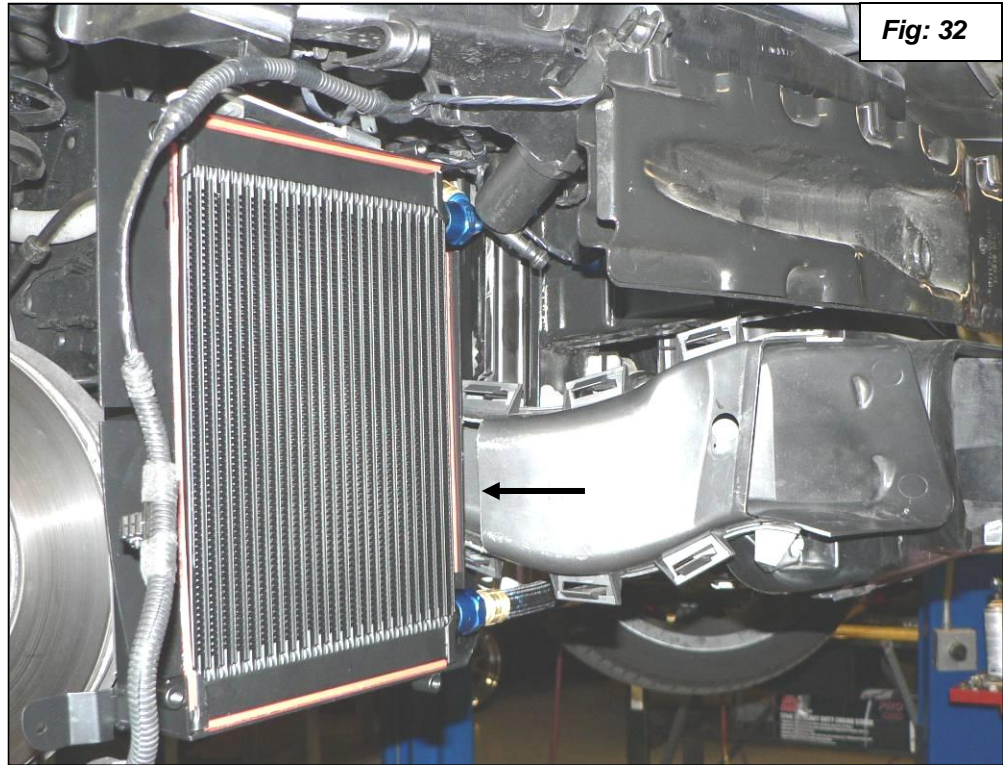

Fig: 32
40. Install the modified brake duct and check for clearance. With the oil cooler in a relaxed position you should have about ½" clearance as shown in **figure 32**.